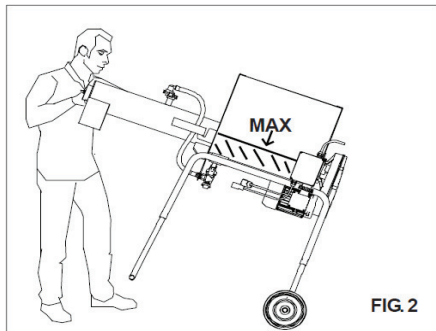
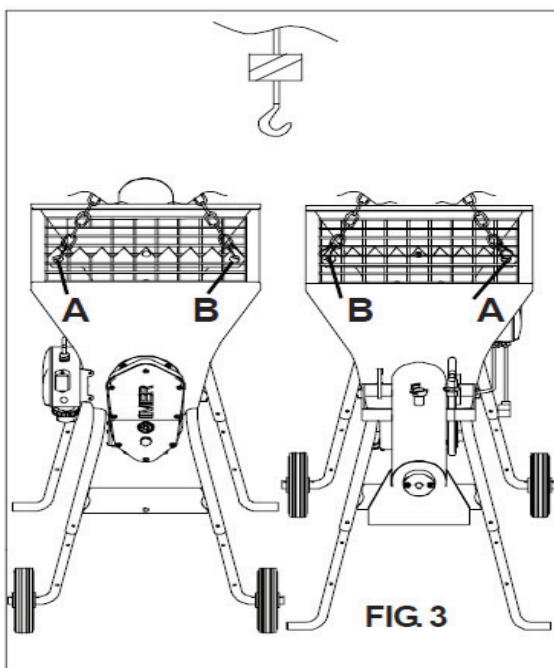

FIG. 2
FIG. 3
8. TRANSPORT (see fig.2 and fig.3)
Lift the mixer by means of the relative handles (fig.2) and push in the required direction.
- CAUTION! Never use points other than as specified in figure 3 to lift the machine
To lift the machine, use the four specific attachment rings (fig.3).